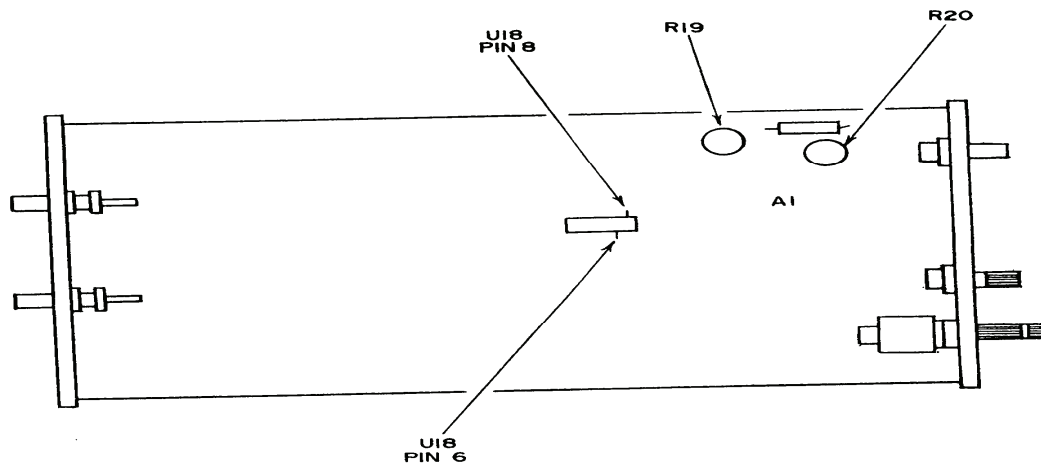

Figure 2. Test instrument - (Hewlett-Packard, Model 5304B) - bottom view.
- (1) Connect oscilloscope **VERTICAL 1** input to U18 PIN 6 (fig. 2).
- (2) Adjust function generator frequency to 10 MHz and amplitude to 50 mV.
- (3) Adjust A1 R20 (fig. 2) for a symmetrical waveform with minimum or no change in duty cycle when **SLOPE** switch is changed from + to - and minimum or no change when **AC/DC** switch is set to **AC** or **DC** (R).
- (4) Connect oscilloscope input to U18 PIN 8 (fig. 2).
- (5) Repeat (2) above and adjust A1 R19 (fig. 2) for a symmetrical waveform with minimum or no change in duty cycle when **SLOPE** switch is changed from + to - and minimum or no change when **AC/DC** switch is set to **AC** or **DC** (R).